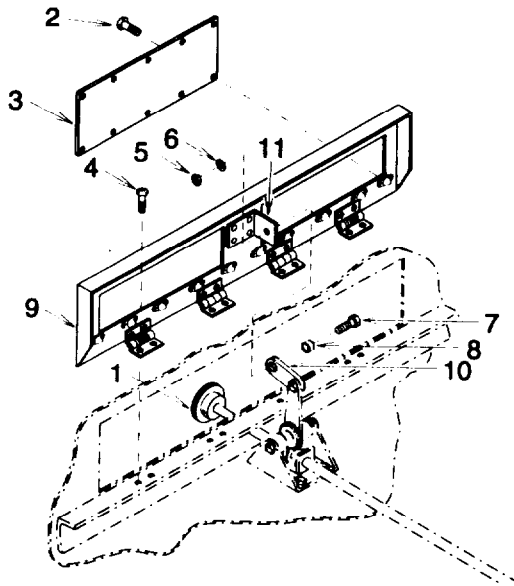

Figure 3-22. Panel/Cover
(1) Panel/Cover.
- (a) Be sure fresh air damper is closed. Rotate knob (1) Figure 3-22 in CLOSE direction if necessary.
- (b) Remove 20 screws (2) and two covers (3).
- (c) Remove eight screws (4).
- (d) Remove self locking nut (5), flat washer (6), screw (7), bushing (8), and panel (9). Discard self locking nut.
- 2 Carefully insert the actuating linear cylinder (3) and place on panel (5). Install two nuts (2).
- 3 Place damper arms (6) onto actuating linear cylinder (3) and install two new self locking nuts (1). Do not tighten self locking nuts.
- 4 Check that damper vanes (7) are in the closed position. Tighten two self locking nuts (1).
(2) Panel/Cover.
- (a) Be sure fresh air damper is in open position. Rotate knob (1) Figure 3-22 in OPEN direction if necessary.
- (b) Install panel (9) and eight screws (4).